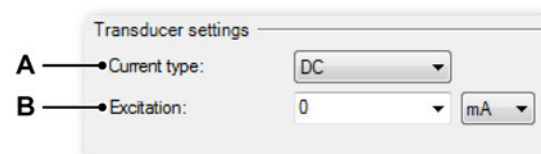

Figure 2.26: Transducer settings/Current sensor
A current type sensor is a sensor that outputs a current (A). Figure 2.26 shows the settings for the current sensor in Perception.